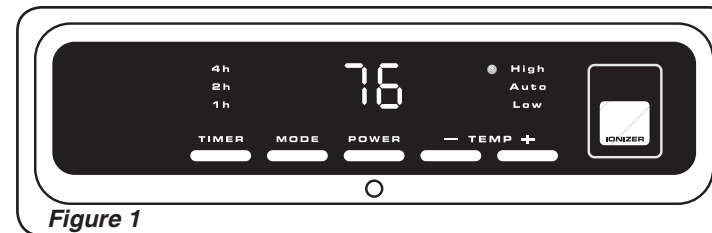

Figure 1
- Upon turning the Heater on, the unit will be in HIGH heat (1500 Watts) and will display the current room temperature (**Figure 1**)